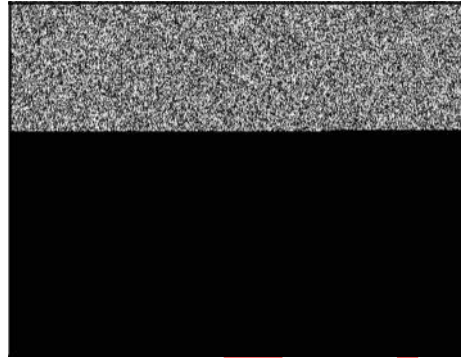

Figure 24
2. To remove auxiliary PTO shaft from sump, remove Allen screw (**A**, Figure 24) from bottom of sump. The slinger, camshaft, and worm gear assembly will remain in the cylinder.